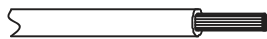

Fig. 18 — Stripping The Wire
- Strip a suitable length of the insulation layer as shown in Fig. 18 below.